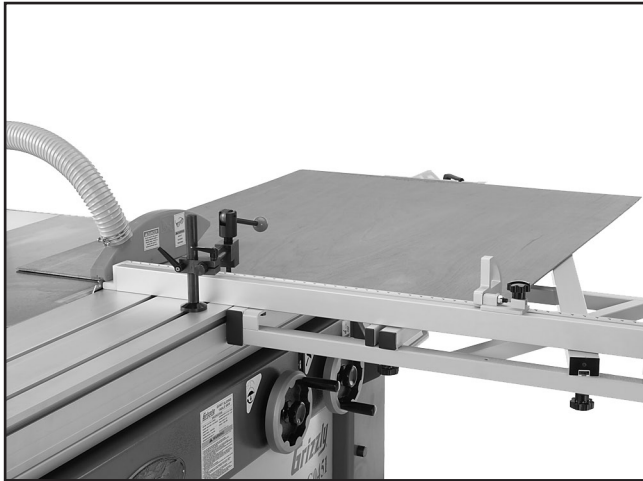

Figure 61. Rip cutting with the sliding table.
The Model G0451 has the capability of rip cutting full size panels (**Figure 61**). The sliding table removes the burden of sliding a large and heavy panel over a stationary table surface.
6. Load the workpiece onto the table saw. The set up should look similar to **Figure 61**.